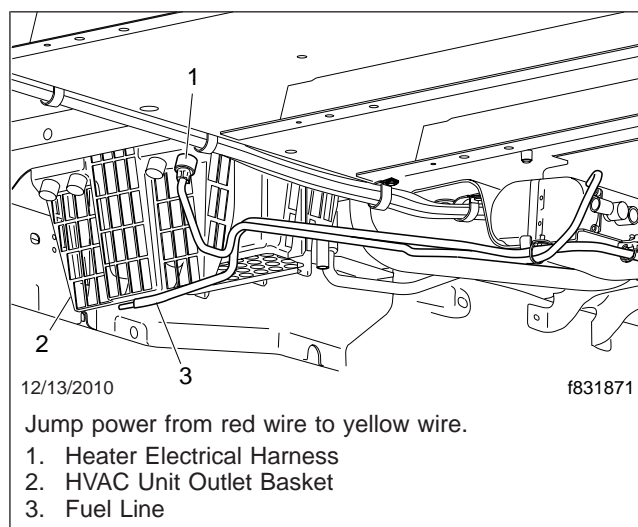

Fig. 8, Testing the Heater Function
2. Jump the power from the red wire to the yellow wire (so that both supply 12V to the heater). See Fig. 8.